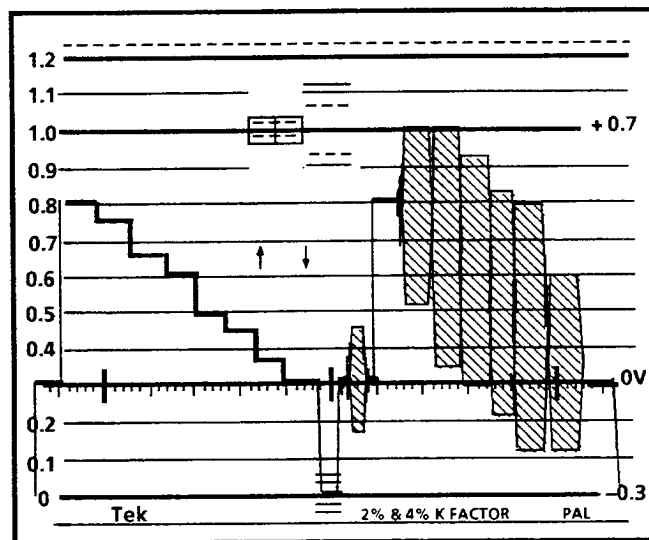

Figure 1-10: 2 Line display with dual filter selected (Low Pass and Flat)
- c. Hold the FILTER button in until both the FLAT and LPASS front-panel indicators are lit. The display now consists of two lines, the first of which has the chrominance removed and the second is unfiltered. See Figure 1-10.